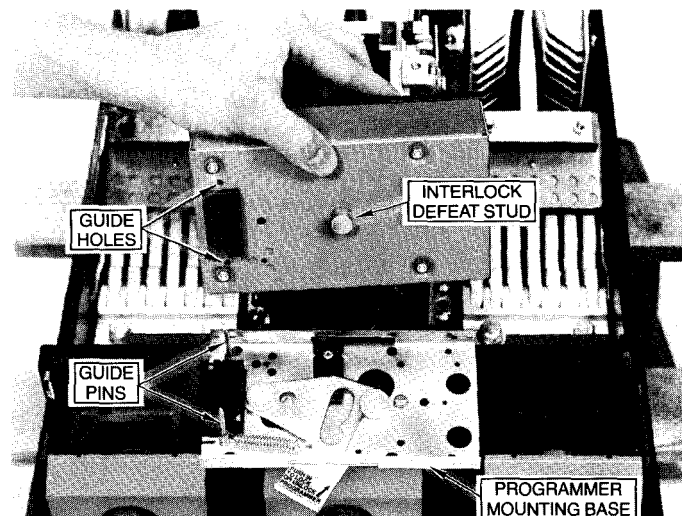

Figure 19.
- a. Align holes in bottom of programmer box with guide pins of frame mounting plate. Lower programmer until it is fully down on the mounting plate and the connecting plug is secure (Figure 19).